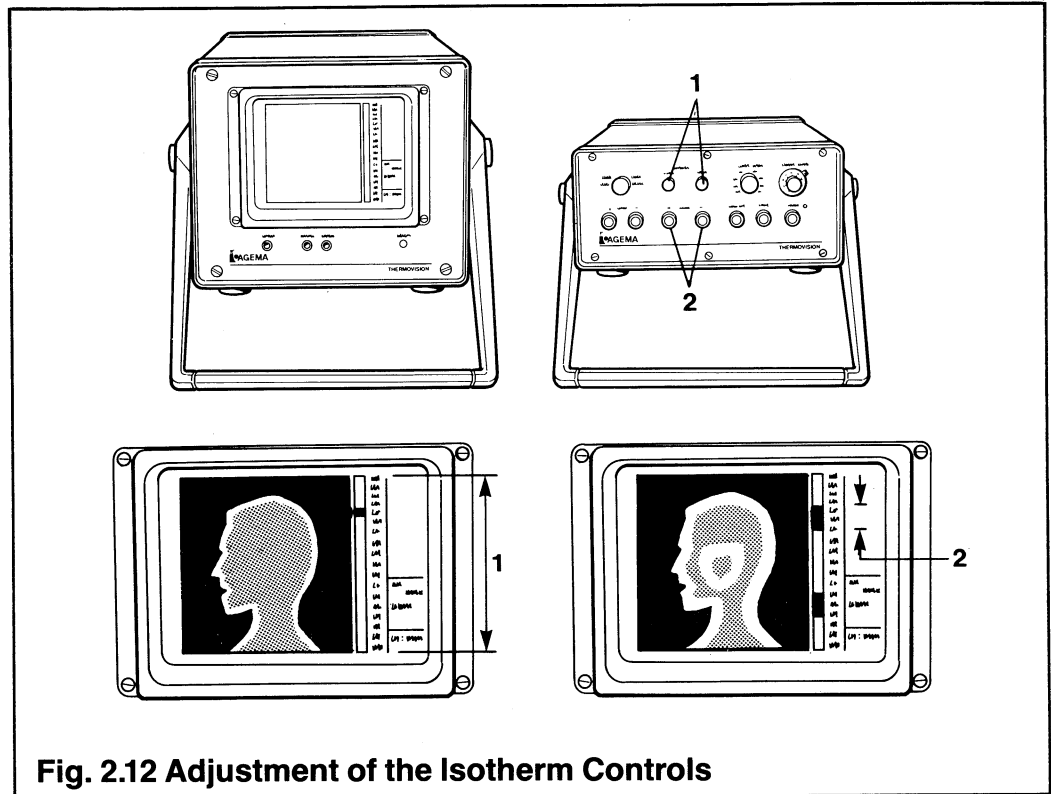

Fig. 2.12 Adjustment of the Isotherm Controls
- (h) Adjust the THERMAL LEVEL control until the thermal image of the object being viewed appears on the screen (Fig. 2.12).
To test the remaining functions proceed as follows (Fig. 2.12).